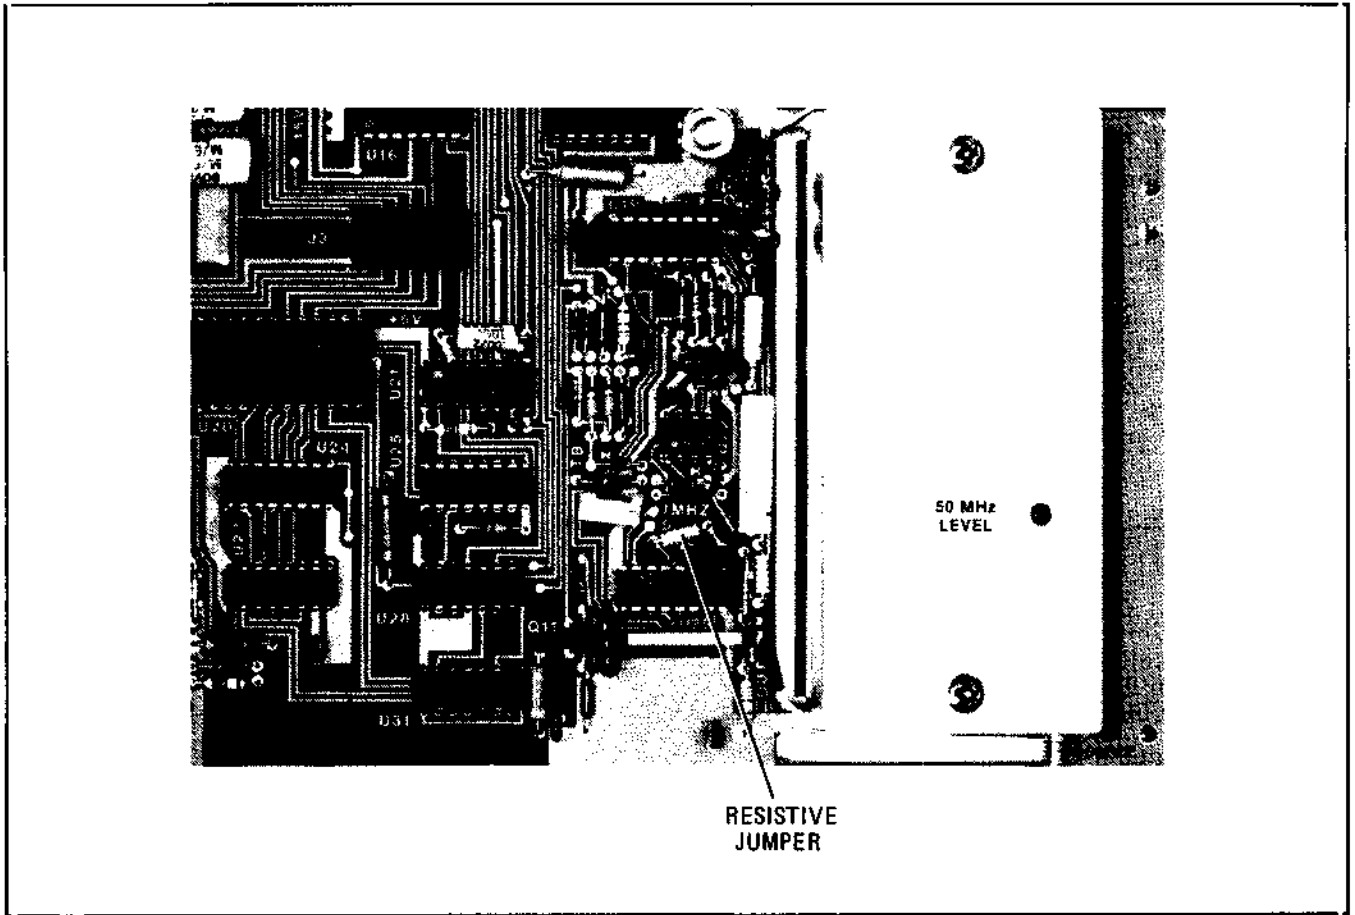

Figure 2-3. Time Base Jumper Location
b. Locate the time base jumper on the Low Frequency Loop Assembly — A3 (see Figure 2-3).